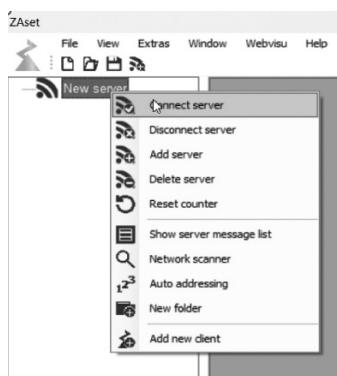

Fig. 15 – ZA – Connect Server
3. Select **Connect server** (see Fig. 15).